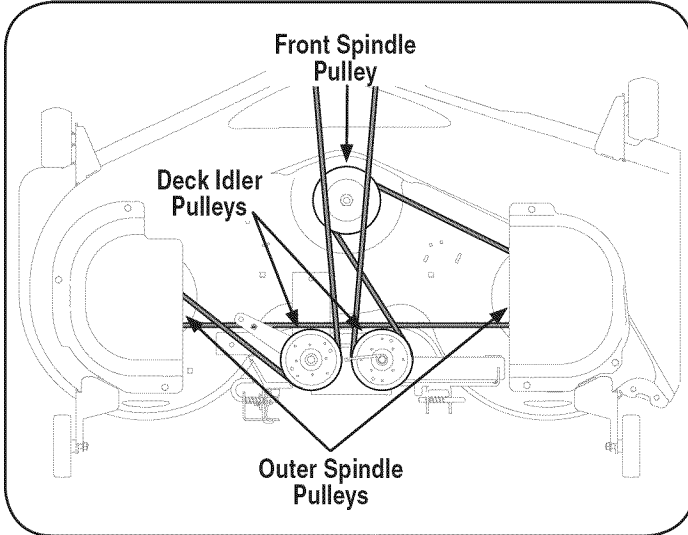

Figure 15
- To place the new belt begin by routing the belt around the two outer spindle pulleys, then around the front spindle pulley as shown in Figure 15.
- Then route the belt around the two deck idler pulleys as shown in Figure 15.